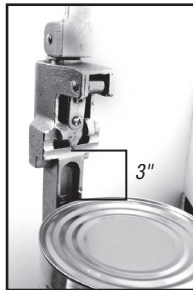

Figure 3
2. Hold the can against the bar of the opener with a height distance of 3" between the blade and the top of the can. (Figure 3)